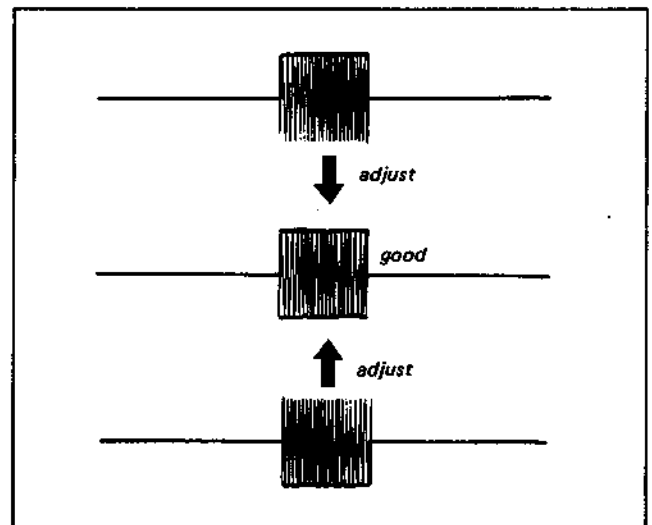

Fig. 4-4-2. DC bias adjustment
- (1) Supply the VTR with the colour bar signal and set up the E-E mode.
- (2) Connect the oscilloscope to pin 13 of IC7.
- (3) Adjust RV5 so that the waveform is as shown in Fig. 4-4-2.